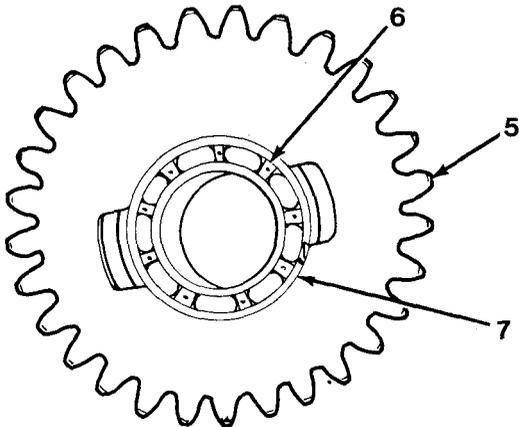

Figure 11-3
4. Using a puller, remove high gear welded assembly (5) and bearing (6) as an assembly from clutch shaft assembly (2).
5. Open snap ring (7), to remove bearing (6) from high gear welded assembly (5, Figure 11-3).
6. Remove bearing (6) from high gear welded assembly (5).
7. Remove snap ring (7), if inspection proves necessary, from high gear welded assembly (5).